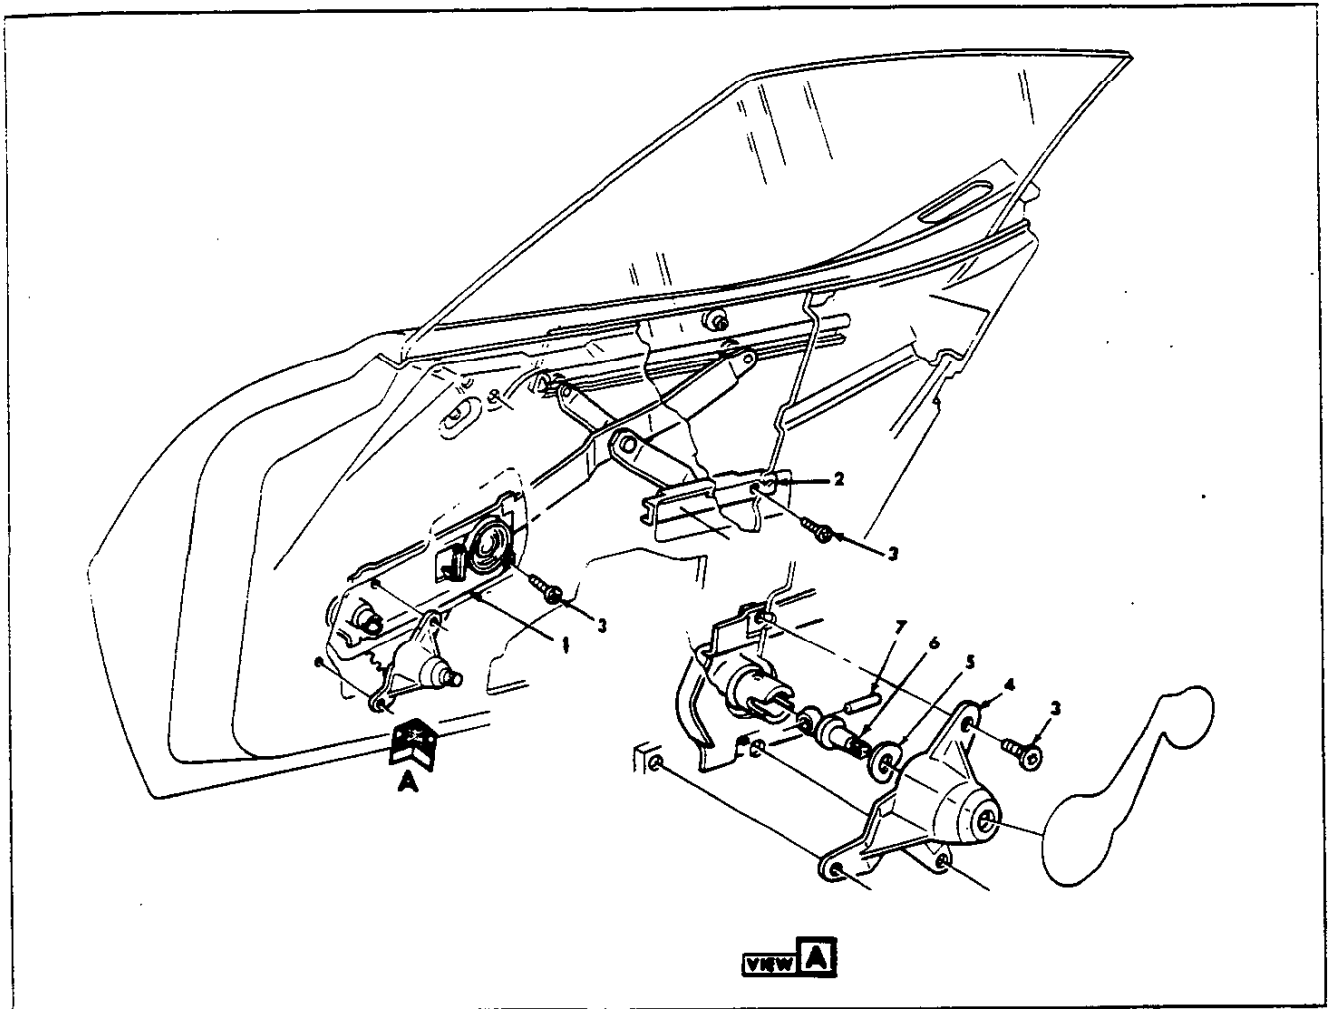
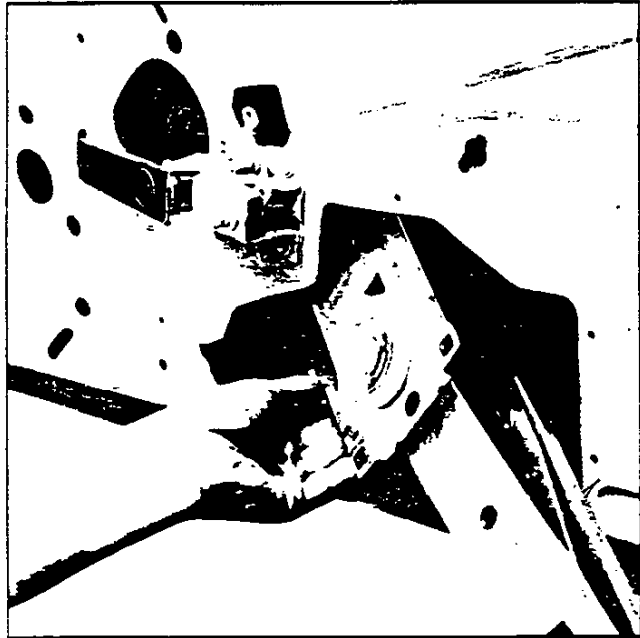

Fig. 32—Manual Window Regulator
Fig. 33—Removing Window Regulator
**WINDOW REGULATOR—MANUAL (Fig. 32)****Removal**
3. Remove two (2) sash bolt and nut assemblies retaining window glass.
4. Remove two (2) screws securing stationary horizontal channel.
5. Remove window crank housing by removing three (3) screws.
7. Remove two (2) screws located adjacent to spring opening retaining regulator.
11. While depressing front channel outward, slide regulator assembly forward and rearward to remove through access hole as shown in Figure 33.